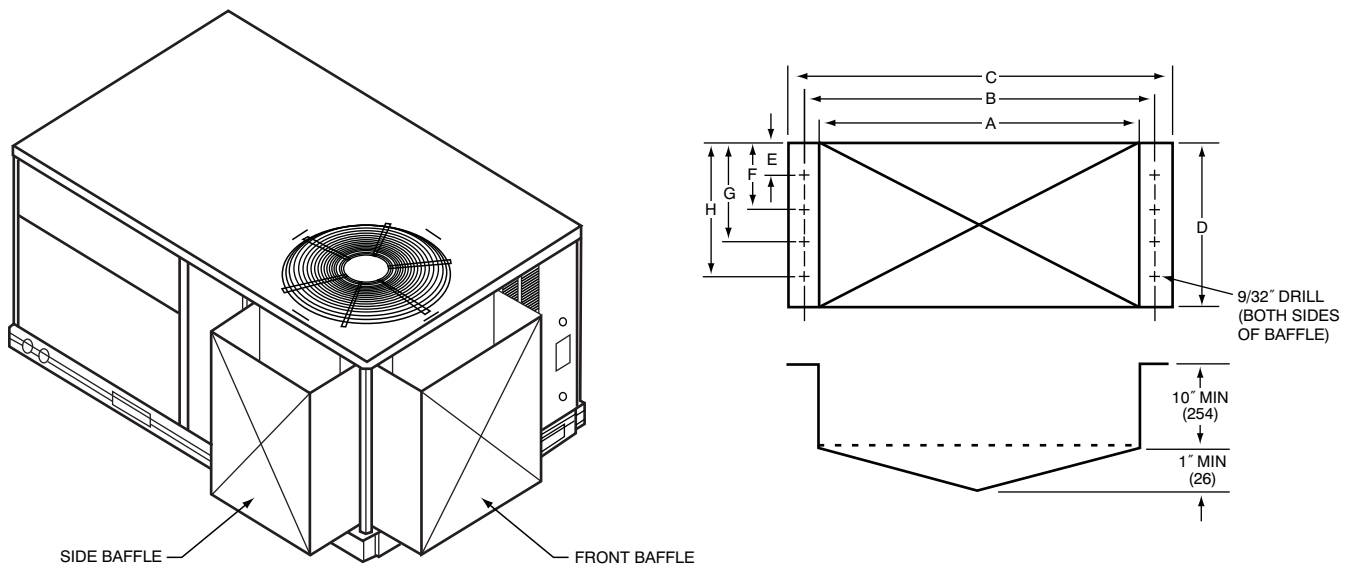

Fig. 20 - Wind Baffles - 3 to 6 Ton Units
9. Wind baffles are required to prevent wind crosscurrents from causing abnormally low condensing temperatures. Wind baffle fabrication details are described in Fig. 20 and 21.